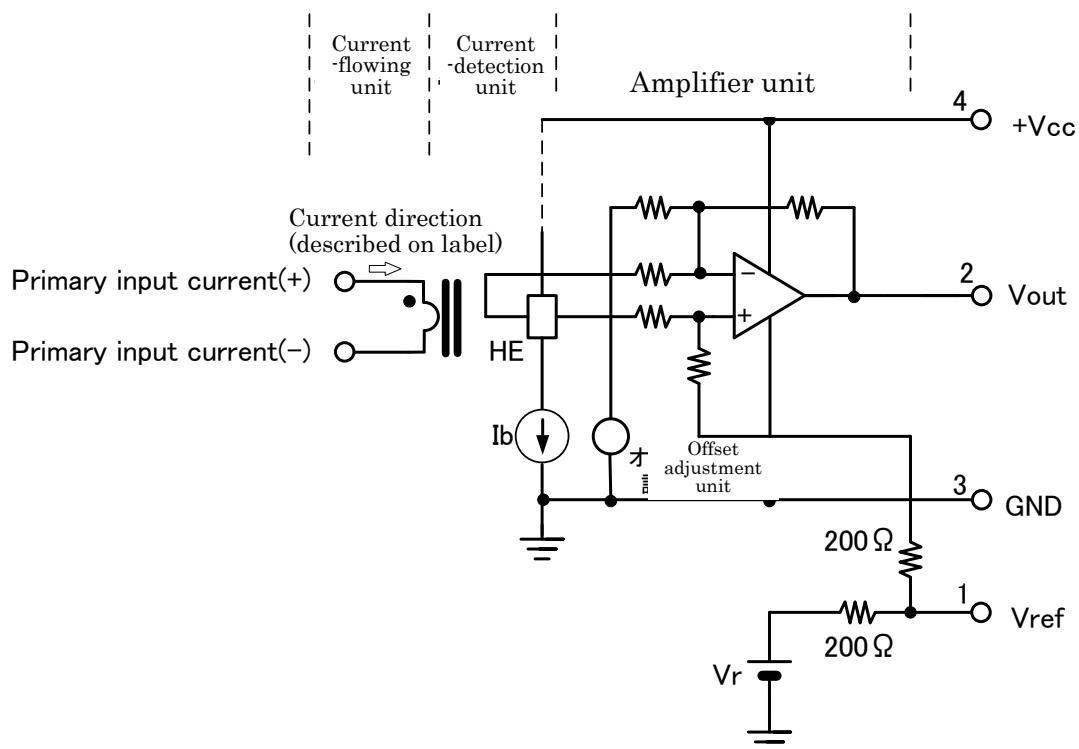

Fig. 1: L31S series Internal block diagram
When voltage $V_r (= 2.495V_{typ})$ built into the sensor is used as a reference, the V_{ref} terminal (1) should be left open. As shown in Fig. 1, the protection resistor of 200Ω typ is inserted between the built-in voltage V_r and the V_{ref} terminal (1). When a circuit such as a resistor is connected to the V_{ref} terminal (1), a voltage drop due to protection resistor occurs and an error can occur in the voltage of the V_{ref} terminal (1) with respect to $2.495V_{typ}$.